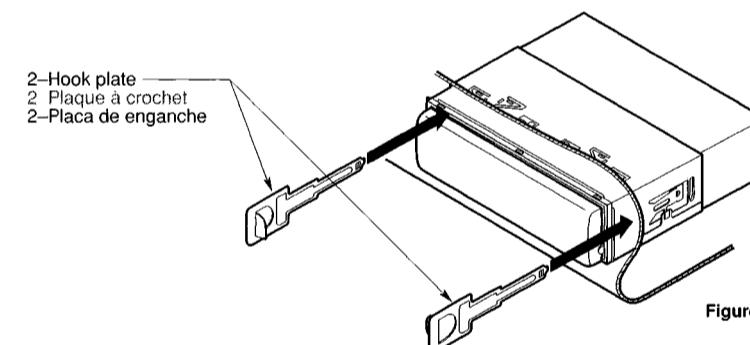

Figure 8 / Figure 8 / Figura 8
- 3 Insert and lock the hook plates (Figure 8).